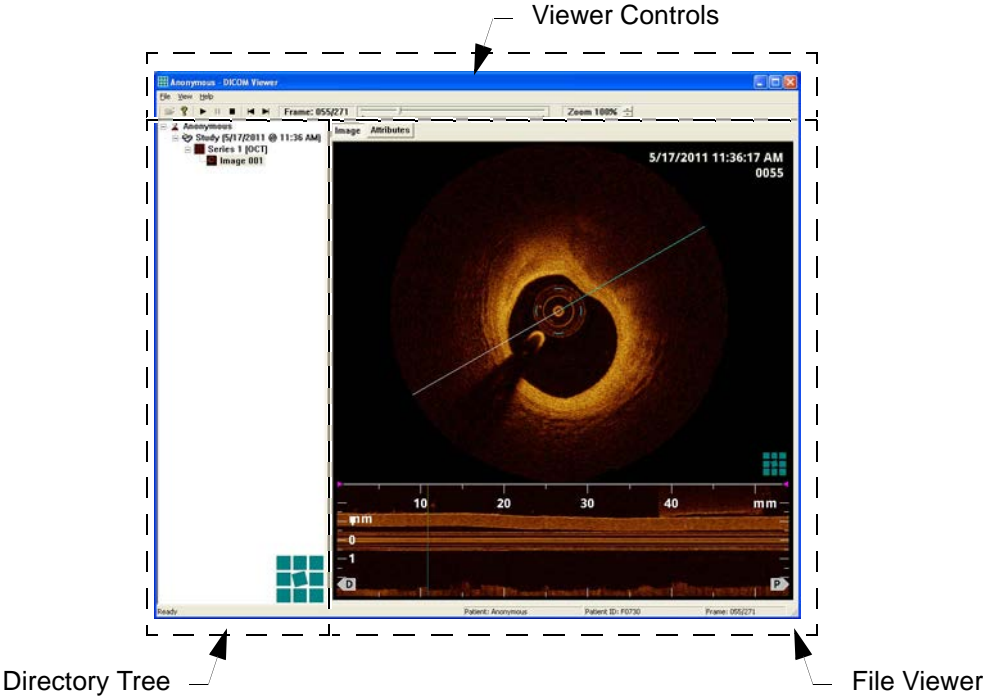

Figure 8-5: St. Jude Medical DICOM Viewer - Image View
When an image file is exported to a CD/DVD in the DICOM format, the St. Jude Medical DICOM Viewer (shown in Figure 8-5) is also included on the CD/DVD. This DICOM CD/DVD can then be freely distributed and used with any Microsoft Windows computer (the CD/ DVD is configured to automatically launch the viewer when it is inserted into the drive). The St. Jude Medical DICOM Viewer may only be used to view St. Jude Medical generated DICOM images on a St. Jude Medical DICOM CD/DVD. If this CD/DVD is to be used in a public forum, the Anonymous option should be used when exporting the image using the system.
- **Image** tab - Displays the image currently selected in the DICOM Directory Tree (see Figure 8-5). If the image is a recording, playback may be controlled using the playback buttons in the Viewer Controls at the top of the viewer. The image may also be zoomed in or out using the **Zoom** feature in the toolbar.